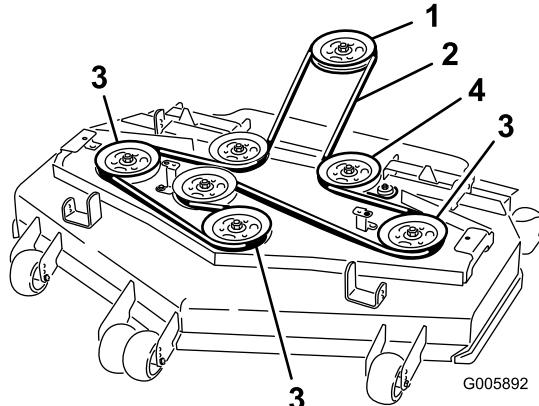

Figure 50
6. Install the new belt on the pulleys (Figure 50).